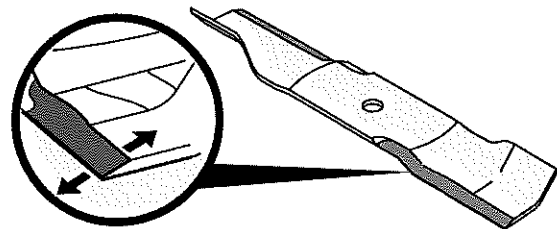

Figure 38
3. To properly sharpen the cutting blades, remove equal amounts of metal from both ends of the blades along the cutting edges, parallel to the trailing edge, at a 25°-30° angle. Always grind each cutting blade edge equally to maintain proper blade balance. See Figure 38.